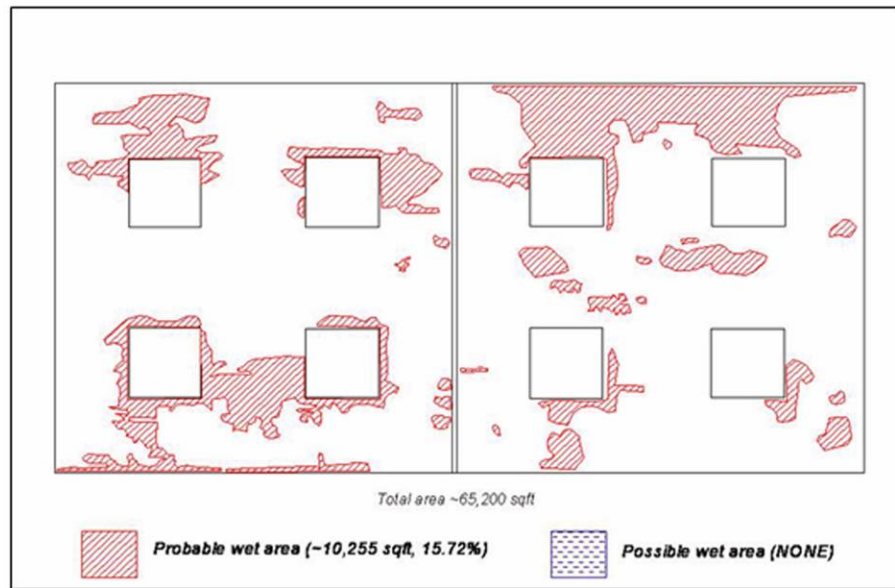

Figure 6, 7, 8) Photograph, thermograph and CAD drawing of a flat roof with moisture contamination.
**Roof moisture survey** reports (see figure 6) are made by capturing IR and visual images and making scaled drawings of the wet areas, so that surgical repairs can be accomplished. Almost all roof insulation materials discarded in the US annually are dry. Why throw away 95% of the insulation when it is not damaged? With a thermal map of a group of buildings one can narrow down the roofs that have problems from the ones that do not on a wholesale basis. This allows the (delete the) facilities management to concentrate on those roofs that need to be repaired.